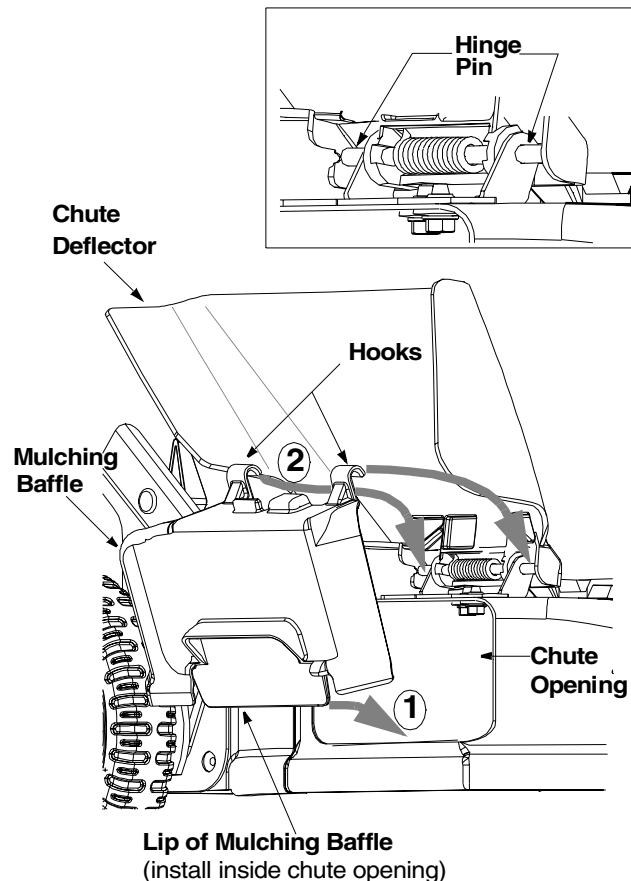

Figure 7
- Insert bottom lip of the mulching baffle **inside** the chute opening. See Figure 7.
- Snap hooks of the mulching baffle over the hinge pin of the chute deflector. See Figure 7. The hooks must snap into place on the hinge pin, locking the mulching baffle firmly onto the mower. For a close-up of the hinge pin location, see Figure 7 inset.